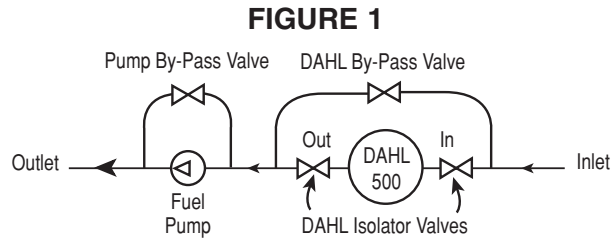
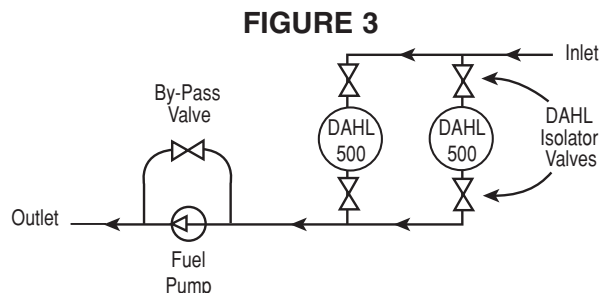

FIGURE 1
FIGURE 3
The fuel flow through the DAHL 500 Series unit must be stopped to service the unit. A tank by-pass valve system is recommended for continuous flow operations. For best fuel flow control through the unit, a by-pass system on the pump is also suggested. See Figure 1. (Also see Figure 3.)
Figure 3 shows how two or more units may be installed in parallel so that one unit may be serviced while the other unit is in operation.
2. Start the fuel flow through the DAHL unit by starting the pump or closing the DAHL unit by-pass valve. (See Figure 1.)